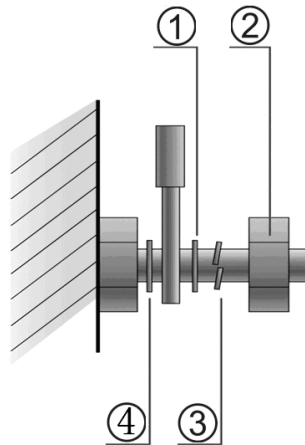

Figure D-4 Cable Fastening
- When screw threads are used to fasten cable terminals, the bolt or screw must be tightly fastened, and anti-loosening measures should be taken, as shown in Figure D-4.